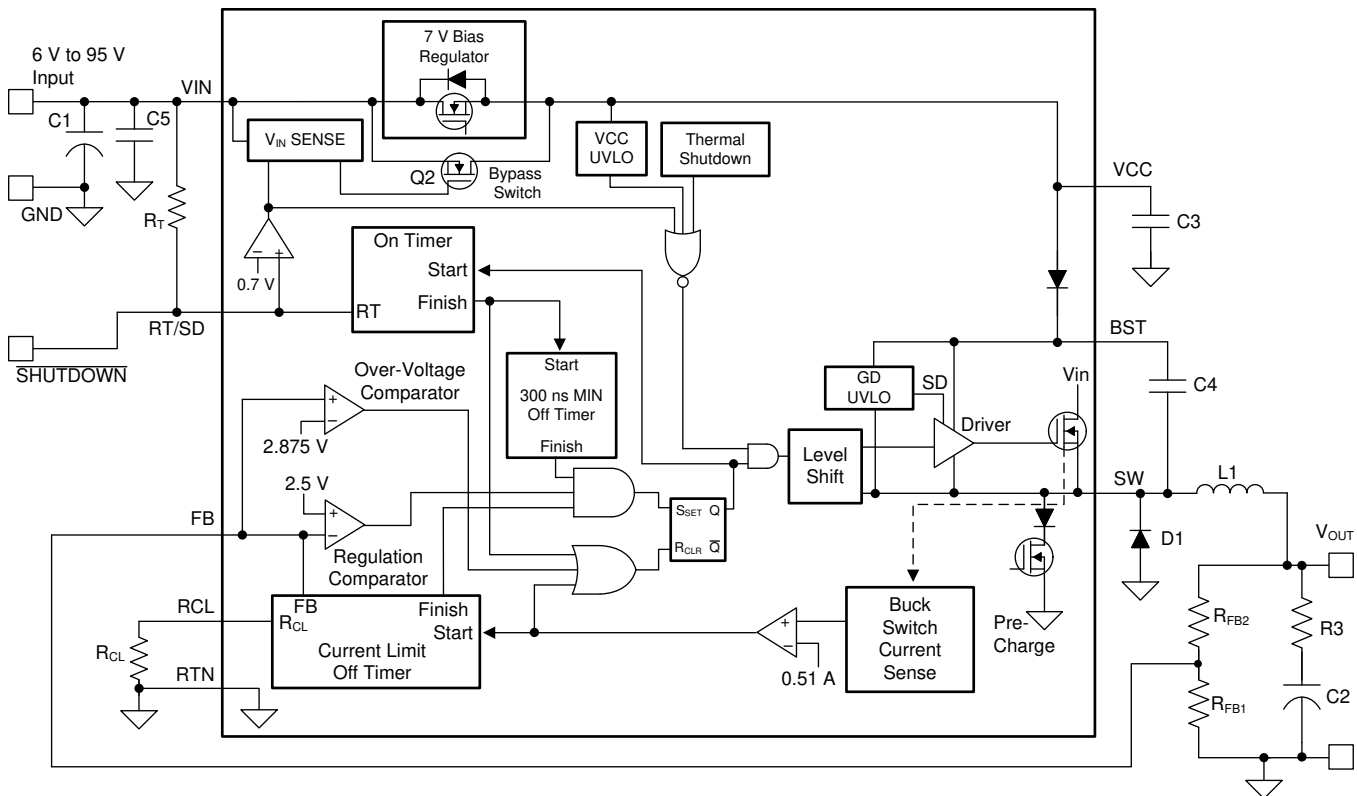

FIG 50. Functional Block Diagram
The output voltage (V_{OUT}) is programmed by two external resistors as shown in 図 50. The regulation point can be calculated with 式 7.
The LM5008A regulates the output voltage based on ripple voltage at the feedback input, requiring a minimum amount of ESR for the output capacitor C2. A minimum of 25 mV to 50 mV of ripple voltage at the feedback pin (FB) is required for the LM5008A. In cases where the capacitor ESR is too small, additional series resistance may be required (R3 in the 図 50).
The high voltage bias regulator is integrated within the LM5008A. The input pin (V_{IN}) can be connected directly to line voltages between 6 V and 95 V, with transient capability to 100 V. Referring to the Figure 50, when V_{IN} is between 6 V and the bypass threshold (nominally 8.5 V), the bypass switch (Q2) is on, and V_{CC} tracks V_{IN} within 100 mV to 150 mV. The bypass switch on-resistance is approximately 100 Ω , with inherent current limiting at approximately 100 mA. When V_{IN} is above the bypass threshold Q2 is turned off, and V_{CC} is regulated at 7 V. The V_{CC} regulator output current is limited at approximately 9.2 mA. When the LM5008A is shut down using the RT/SD pin, the V_{CC} bypass switch is shut off regardless of the voltage at V_{IN} .